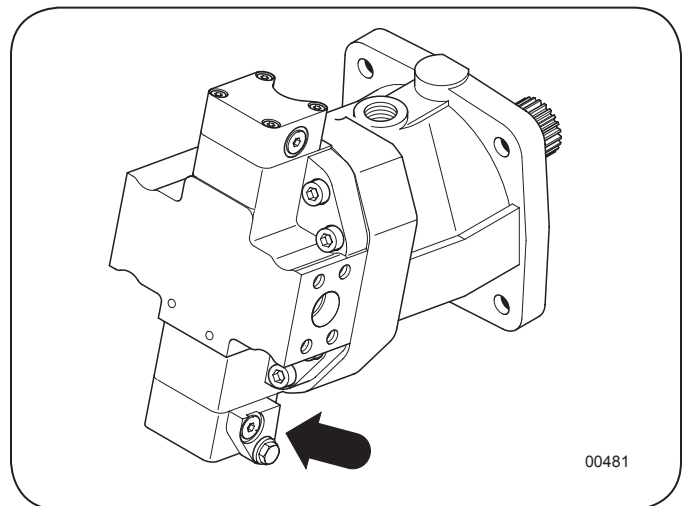

Figure 18: Wheel Drive Motor Port "M1"
3. Locate and disconnect the parking brake solenoid coil harness (yellow wire) at the lower solenoid manifold. See Figure 18. This will prevent the parking brake from releasing.
6. Locate port "M1" on each wheel drive motor. See Figure 18.